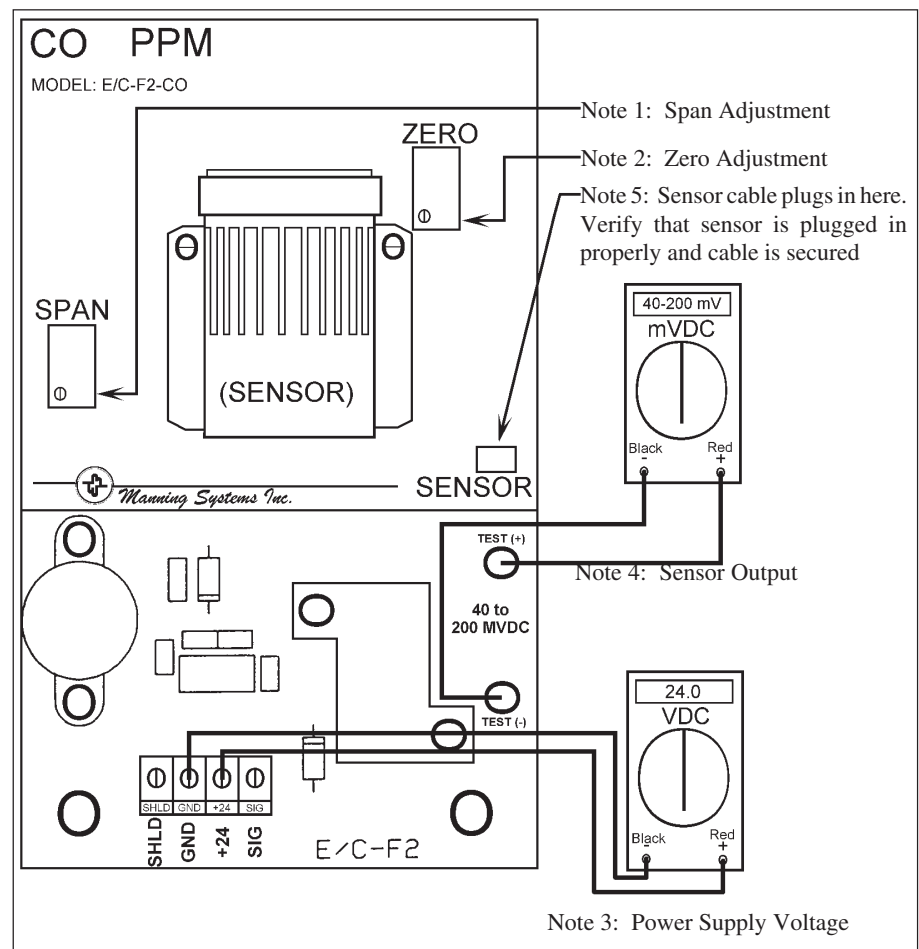

Figure 3: Checking sensor output, power supply voltage, and zero and span adjustments to the EC-F2 Sensor
Before applying power, make a final check of all wiring for continuity, shorts, grounds, etc. (see Figure 3, Note 5). It is usually best to disconnect external alarms and other equipment from the sensor until the initial start-up procedures are completed.
- Adjust the zero pot until the sensor outputs 4.0 mA (40 mV from Test [-] to Test [+]) (see Figure 3, Note 2 and 4).
- After span gas has been on sensor for two minutes, adjust the span pot until the correct output is achieved (see Figure 3, Note 1).
If the sensor output is 0 mA: First, verify +24 VDC at the sensor terminal block (see Figure 3, Note 3).
Second, check voltage between Test (-) and Test (+) (see Figure 3, Note 4). Voltage should be in the range of 40 mV to 200 mV corresponding to an actual current flow of 4 to 20 mA. If this voltage is 0 mV, the signal has no path to ground. Check monitoring equipment connections and configuration. Input impedance must be 250 ohms or less.